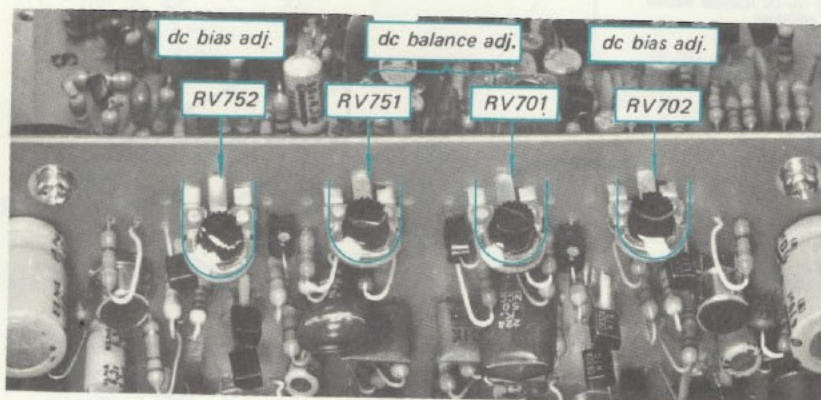

Fig. 3-15. Adjustment parts location
1. Set the adjustable resistors (see Fig. 3-15) on the power-amplifier board as follows: